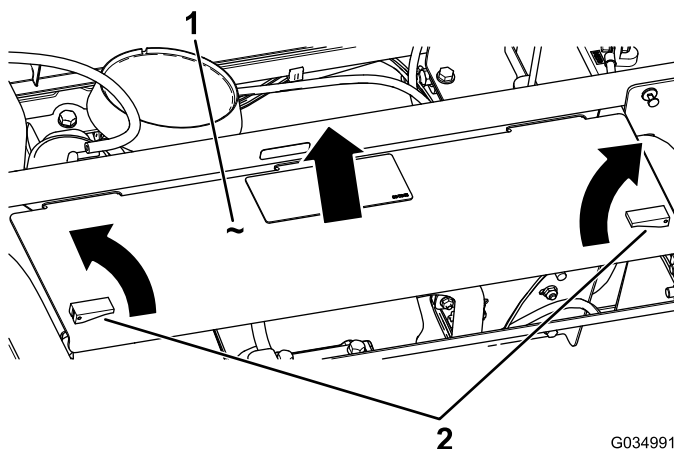

Figure 7
3. Raise the cover-panel levers and remove the cover panel to access the opening for the alarm in the rear-frame panel (Figure 7).